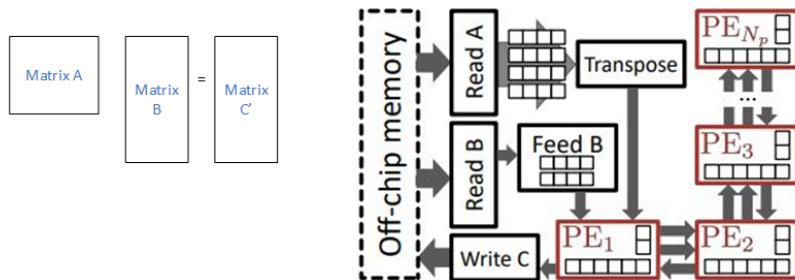

Fig 2. System Architecture(right side from [2])
Fig 2 presents a detailed depiction of the kernel architecture. The diagram showcases the arrangement of components within the kernel. On the left side, you can observe the input matrices denoted as A and B, while the output matrix is represented as C. The kernel is partitioned into multiple outer tiles, with their respective sizes indicated as $k_{OuterTileSizeN}$ and $k_{OuterTileSizeM}$. These outer tiles are further subdivided into inner tiles, which possess sizes referenced as $k_{InnerTileSizeN}$ and $k_{InnerTilesM}$.
DMM_PARALLELISM_N: Represents the number of processing elements (PEs) within an inner tile that will run in parallel. This corresponds to kComputeTilesN in Figure 2.
DMM_PARALLELISM_M: Indicates the size of a processing element (PE), or the number of compute units it possesses. This aligns with kComputeTileSizeM in Figure 2.